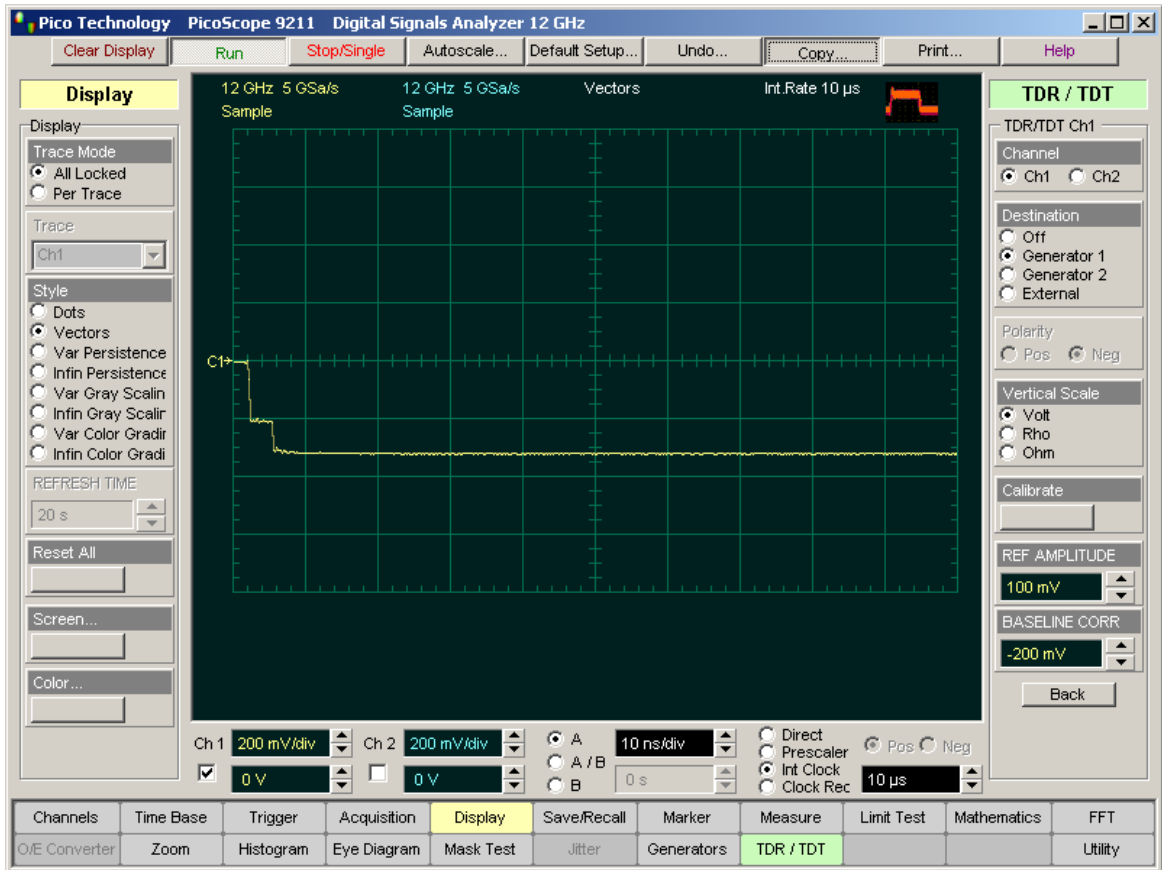

Figure 2
8. Click **Generator 1** in the Destination menu. See Figure 2. Notice that reflected step has similar slope to the incident step.
The incident step (the first negative step in Figure 2) coming to the sampler from one of the outputs of the Resistive Power Divider has approximately 200-mV amplitude and is not used for TDR measurements.
The same 200-mV step coming from the second output of the Resistive Power Divider goes through the 30-cm precision cable to the transmission line and is used as a TDR step. It is a reflected step. All the reflections from transmission line return to the sampler repeatedly passing through the Resistive Power Divider. That is why step amplitude is divided by 2 once more and is approximately 100 mV (the second negative step in Figure 2).